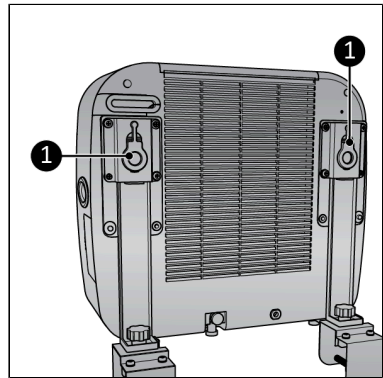

Figure 27.
The rubber hooks (Figure 27, pos. 1) can be used to mount the top caravan brackets to the indoor unit.